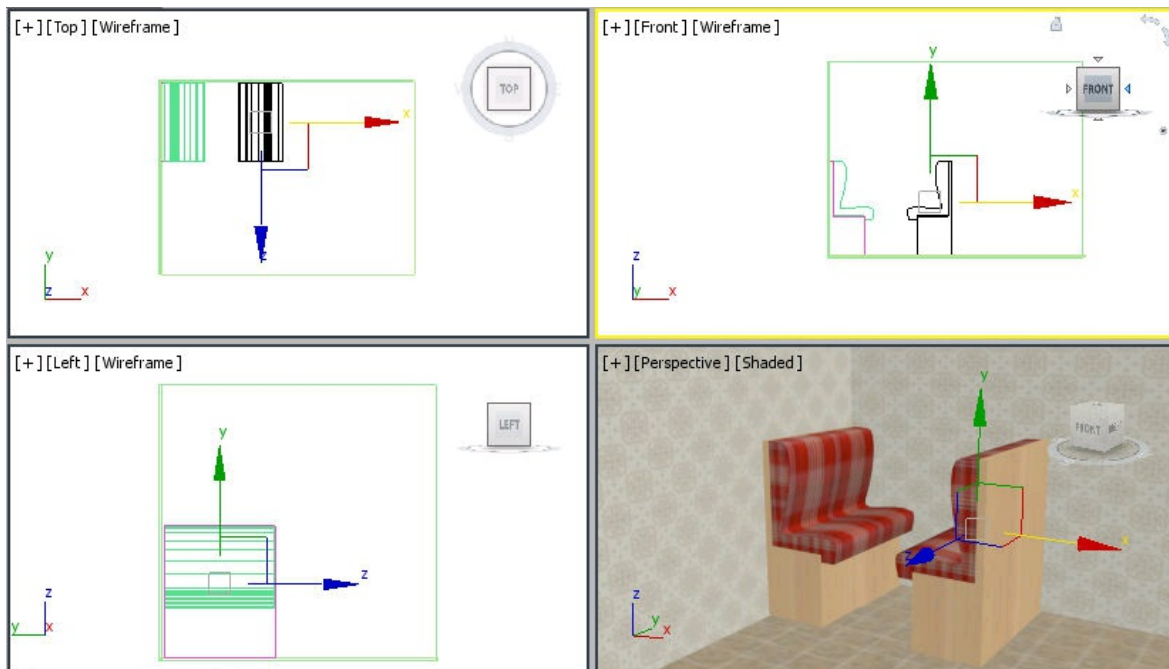

Figure P1-8 Mirror image created 40 units to the right of *Booth01*
26. Choose the **Mirror** tool from the **Main Toolbar**; the **Mirror: Screen Coordinates** dialog box is displayed. In the **Clone Selection** area of this dialog box, select the **Copy** radio button. In the **Mirror Axis** area, select the **X** radio button and set the value **40** in the **Offset** spinner. Next, choose the **OK** button; a mirror image is created at an offset of 40 units to the right of *Booth01*, as shown in Figure P1-8.